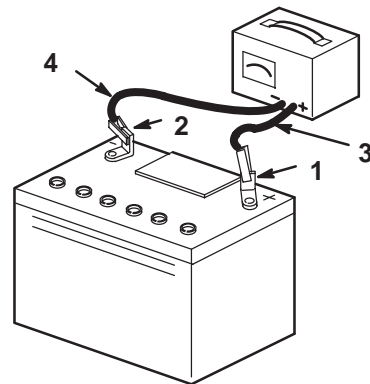

Figure 2
6. Charge the battery for 1 hour at 25 to 30 amps or 6 hours at 4 to 6 amps (Fig. 2). Do not overcharge the battery.
7. When the battery is fully charged, unplug the charger from the electrical outlet, then disconnect the charger leads from the battery posts (Fig. 2).